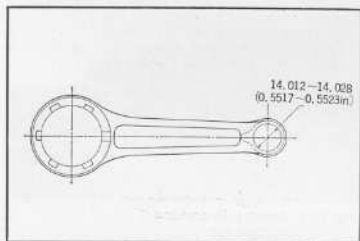

Fig. 3.84 Connecting rod
3. Connecting rod small end bore. (Fig. 3.84)